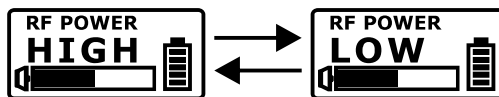

Fig. 14
- (E) RF POWER: RF Power Setting. Fig. 14
- (1) Select HIGH or LOW.
(2) HIGH has 50mW transmitting power. LOW has 10mW transmitting power. Set appropriate power to meet region/country regulations.